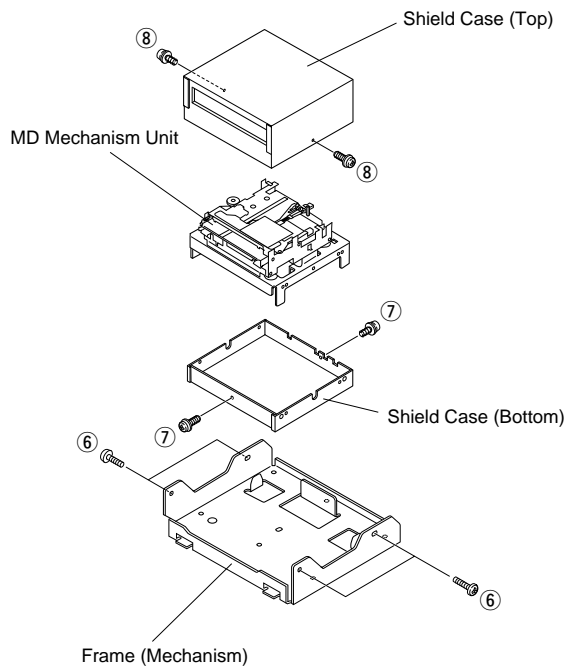

Fig. 2
- c. Remove 4 screws ( ⑥ ) in Fig. 2.
- d. Remove 2 screws ( ⑦ ) in Fig. 2.
- e. Remove 2 screws ( ⑧ ) in Fig. 2.